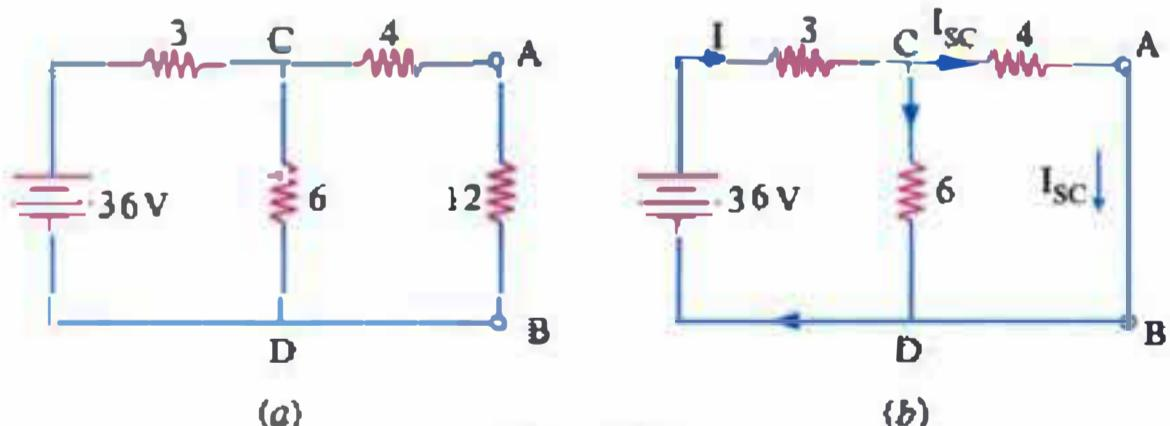

Fig. 4.18
**Example 4.5.** Using Norton's theorem, calculate the current flowing through the 12 Ω resistor in Fig. 4.18 (a).
**1. First Step.** Remove 12 Ω resistor from terminals A and B and then put a short-circuit across them as shown in Fig. 4.18 (b). The current passing through 4 Ω resistor is also the short-circuit current  $I_{SC}$  (also written as  $I_N$ ). For finding this current, we have first to find  $I$  by simplifying the circuit. As seen, total circuit resistance